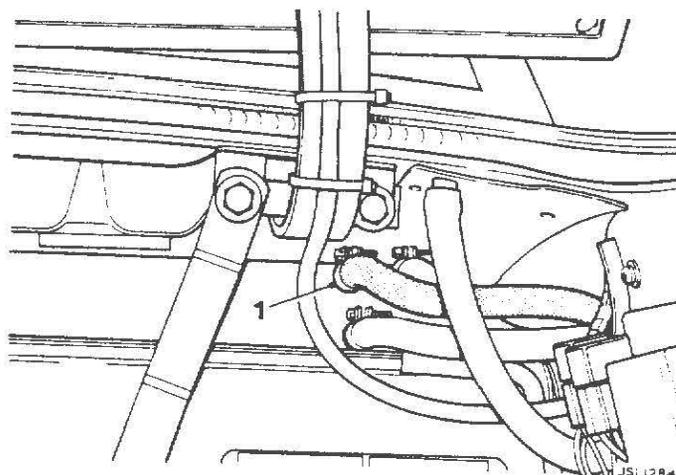

FIG 4
12. Slacken the hose clip and remove the LH vapour hose from the top of the fuel tank (1 Fig 4).